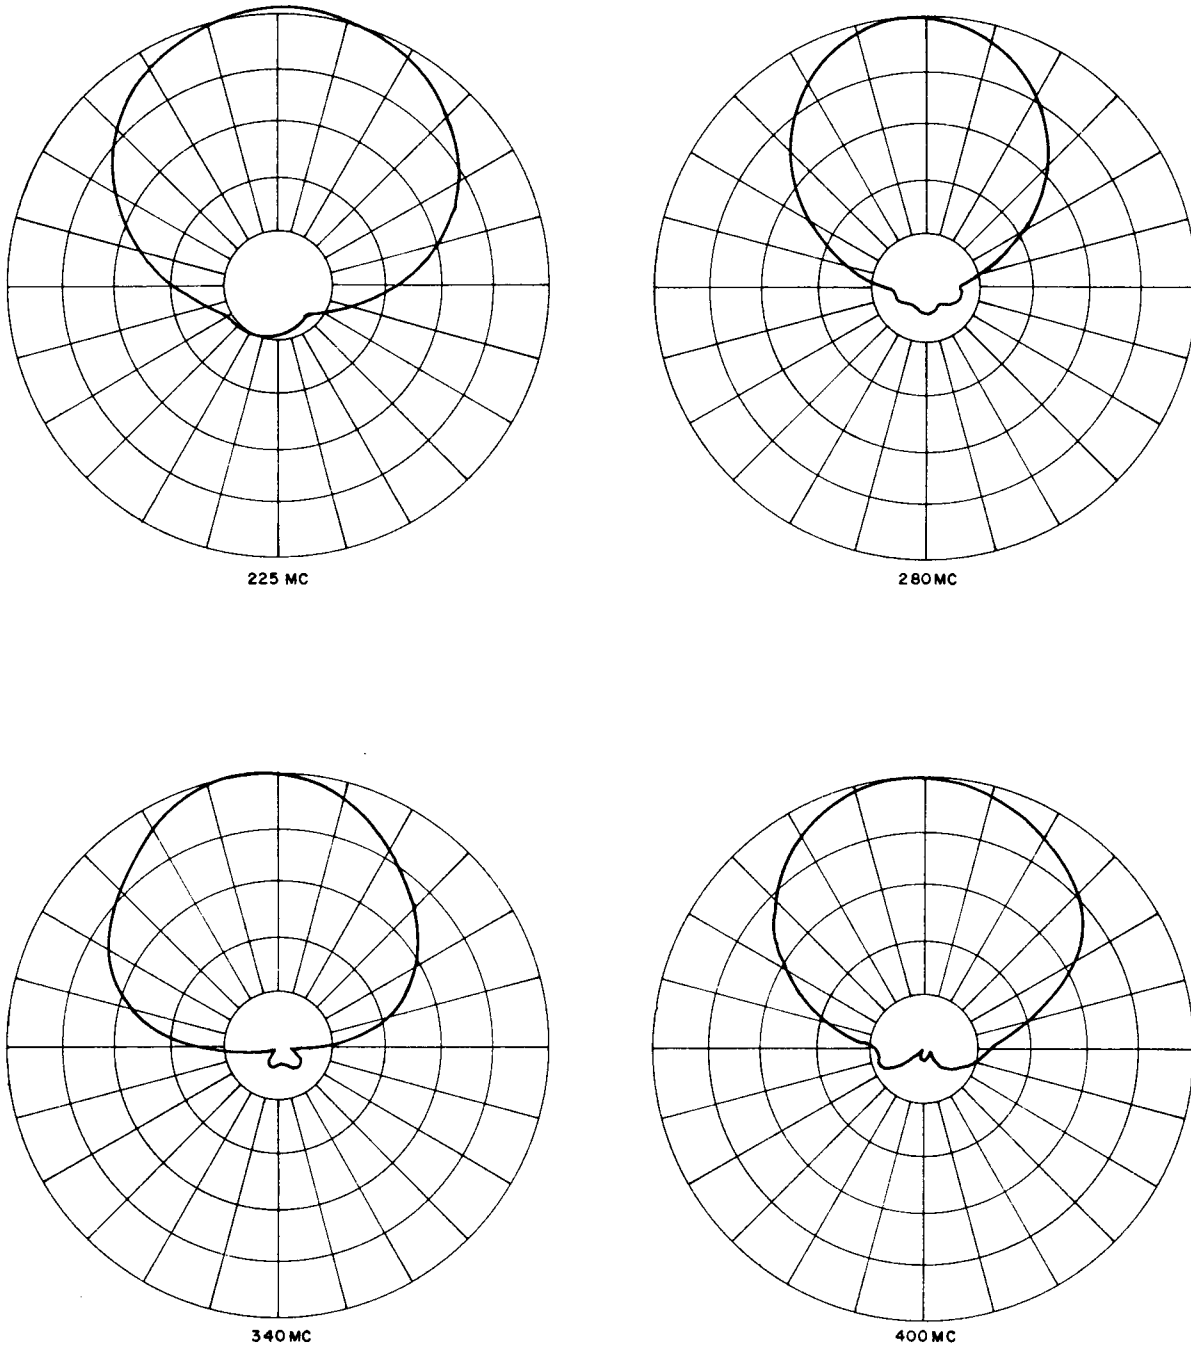
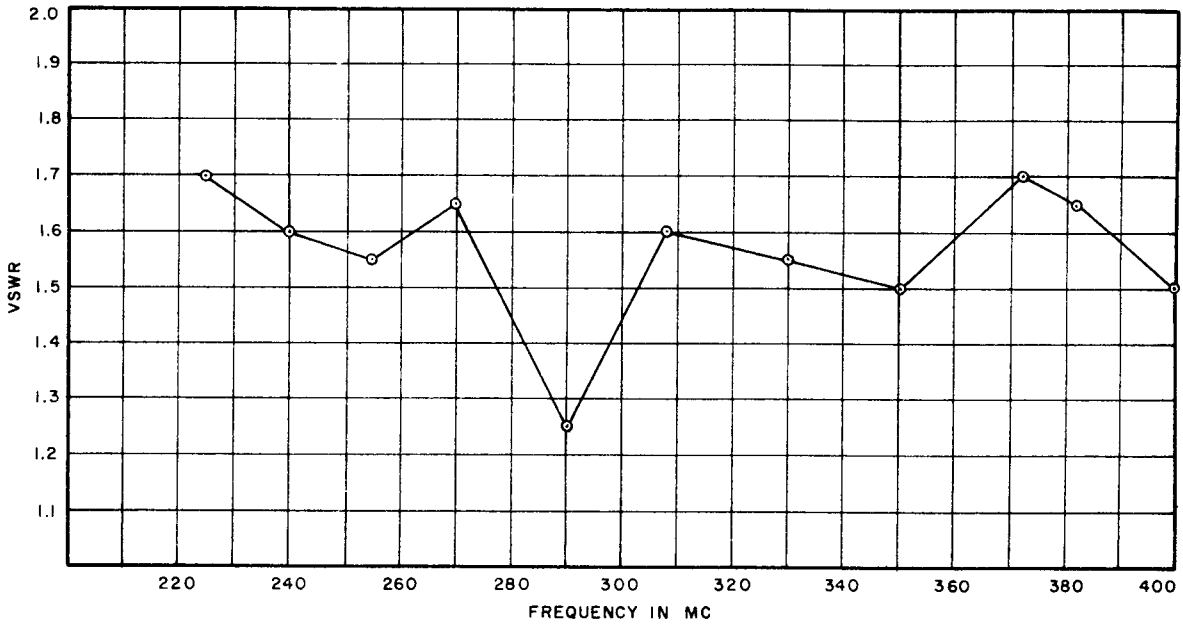

Figure 4-15. Antenna AS-1405/PRC-41, Azimuthal Plane Voltage Pattern
Figure 4-16. Antenna AS-1405/PRC-41, Voltage Standing-Wave Ratio
(1) ANTENNA AS-1405/PRC-41. - Antenna AS-1405/PRC-41 is used with Radio Receiver-Transmitter RT-695/PRC-41 for reception and transmission of signals in the 225.0- to 399.9-mc range without electrical or physical adjustments, other than extending the elements which are normally collapsed for storage. This antenna is a planar log periodic dipole array which provides unidirectional directivity characteristics. The nominal input impedance is 50 Ohms. The azimuthal plane voltage patterns are shown in figure 4-15 for several frequencies in the range. The voltage standing-wave ratio for frequencies between 220 and 400 mc is shown in figure 4-16. Antenna AS1405/PRC-41 is operated on Mast AB-777/PRC-41.